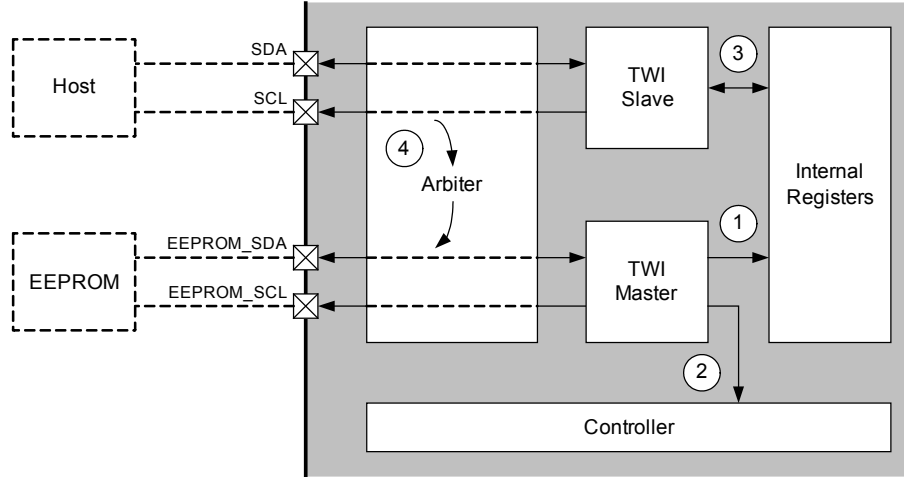

Figure 20 - Serial interfaces to internal registers
- If the register is implemented in EEPROM only (addresses 00h to BFh) then the transaction is forwarded to the EEPROM via path 4 in figure 20. There is a direct combinational logic path between the slave and master interfaces which makes the PHY1040-01 transparent when transactions from the host are forwarded to the EEPROM.